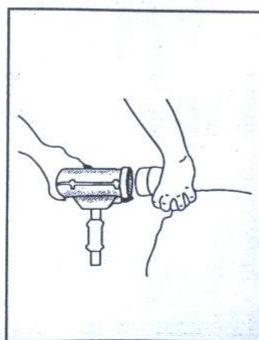

Fig. 2
3. Install the bag elbow and tighten the wing nut (Fig. 2).